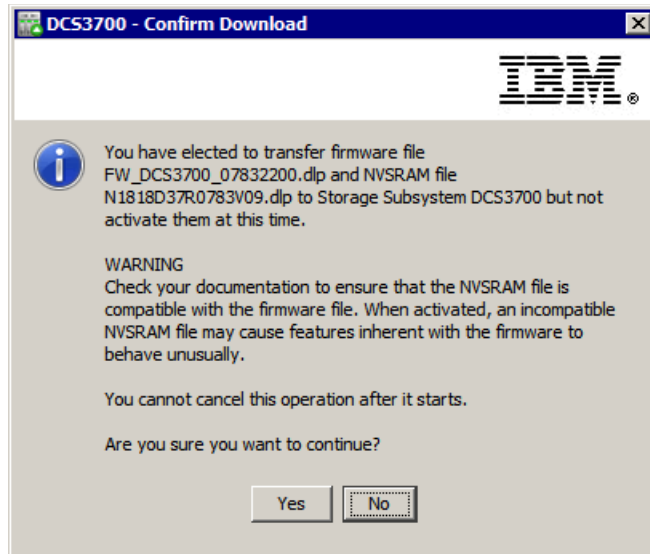

Figure 14-35 Confirm Download
7. Click **Transfer** to submit the new microcode to the storage subsystem. The Confirm Download window opens (Figure 14-35). Read it and click **Yes** to continue.